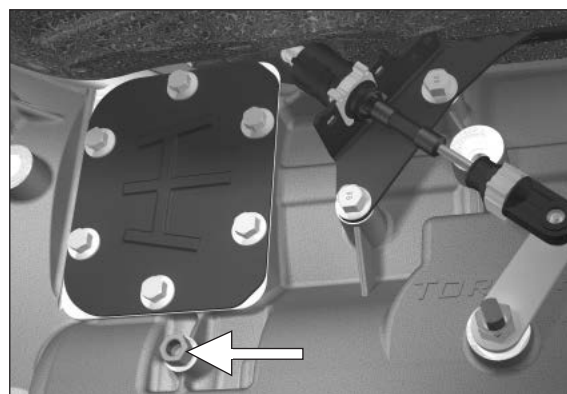
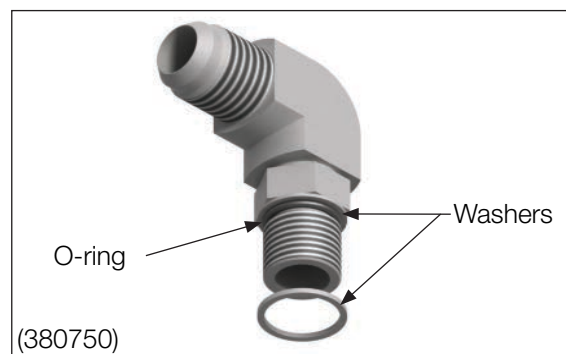

Figure 22
Figure 23
3. Remove the plug from the transmission pressure port (**Fig. 22**) and install fitting in the opening (**Fig. 23**).
IMPORTANT: Both Washers and the O-ring must be present at installation. The second Washer must fit around the O-ring for proper seal (**Fig. 23**).
380750 90-degree Adapter Fitting (1 each) (**Fig. 23**).